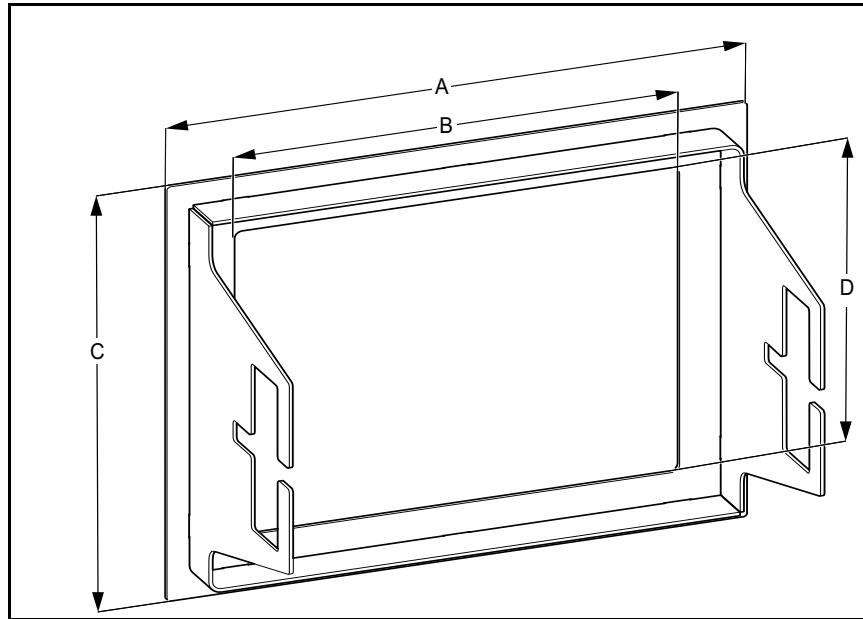

Figure 2. Bezel Bracket Dimension Diagram
2. Place cutout template on required position on panel and carefully trace outside. Ensure cutout will be far enough from panel edge to accommodate bezel dimensions (See Figure 2) and install clamping assembly.